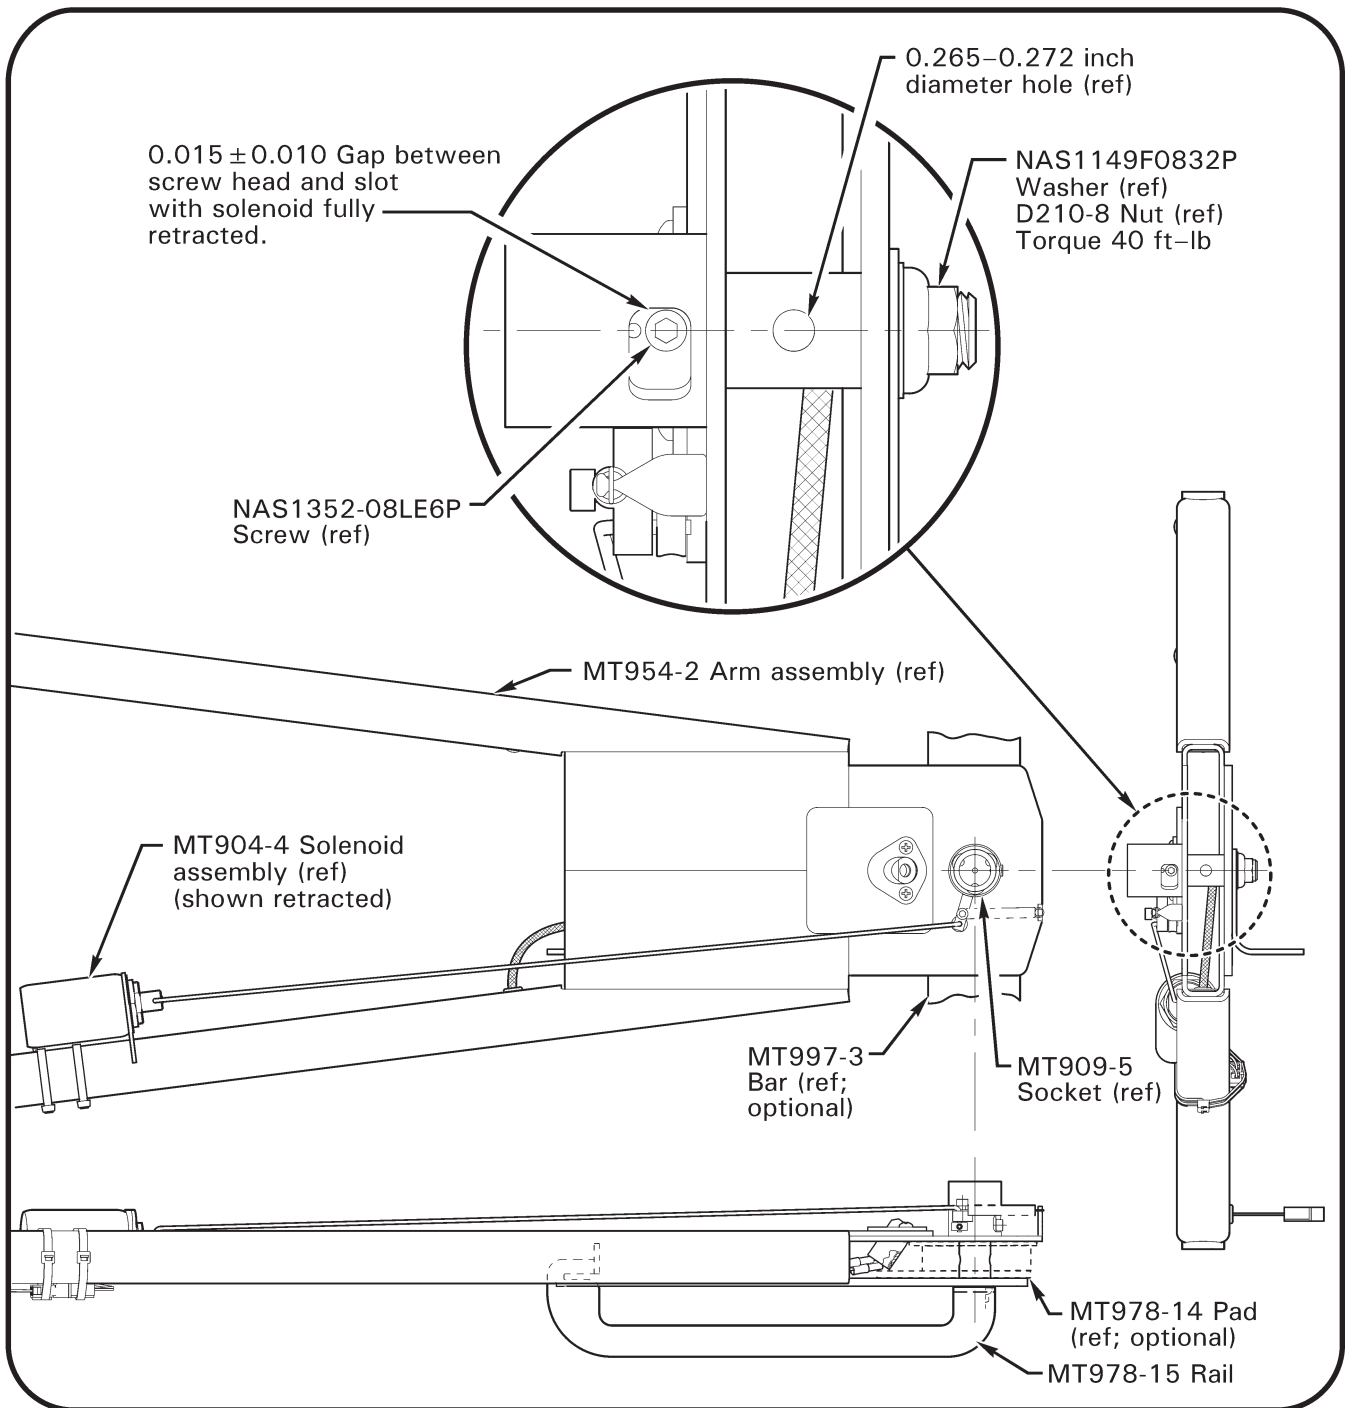

FIGURE 1 MT978-15 Rail installation
3. Refer to Figure 1. Install MT978-15 rail on MT954-2 arm assembly and MT909-5 socket as shown. Secure using retained NAS1149F0832P washer and D210-8 nut.
4. Refer to Figure 1. With solenoid fully retracted create a .015-inch gap between NAS1352-08LE6P screw head and slot as shown (rotate MT909-5 socket to adjust). Torque D210-8 nut to 40 ft-lb using a through-hole alignment pin (≈1/4-inch diameter) thru 0.265-0.272 inch diameter hole located in MT909-5 socket, or (≈3/16-inch diameter) thru MT997-3 bar & MT909-5 socket (Refer to IPC Figure 3-7). Remove through-hole alignment pin and verify .015-inch gap.